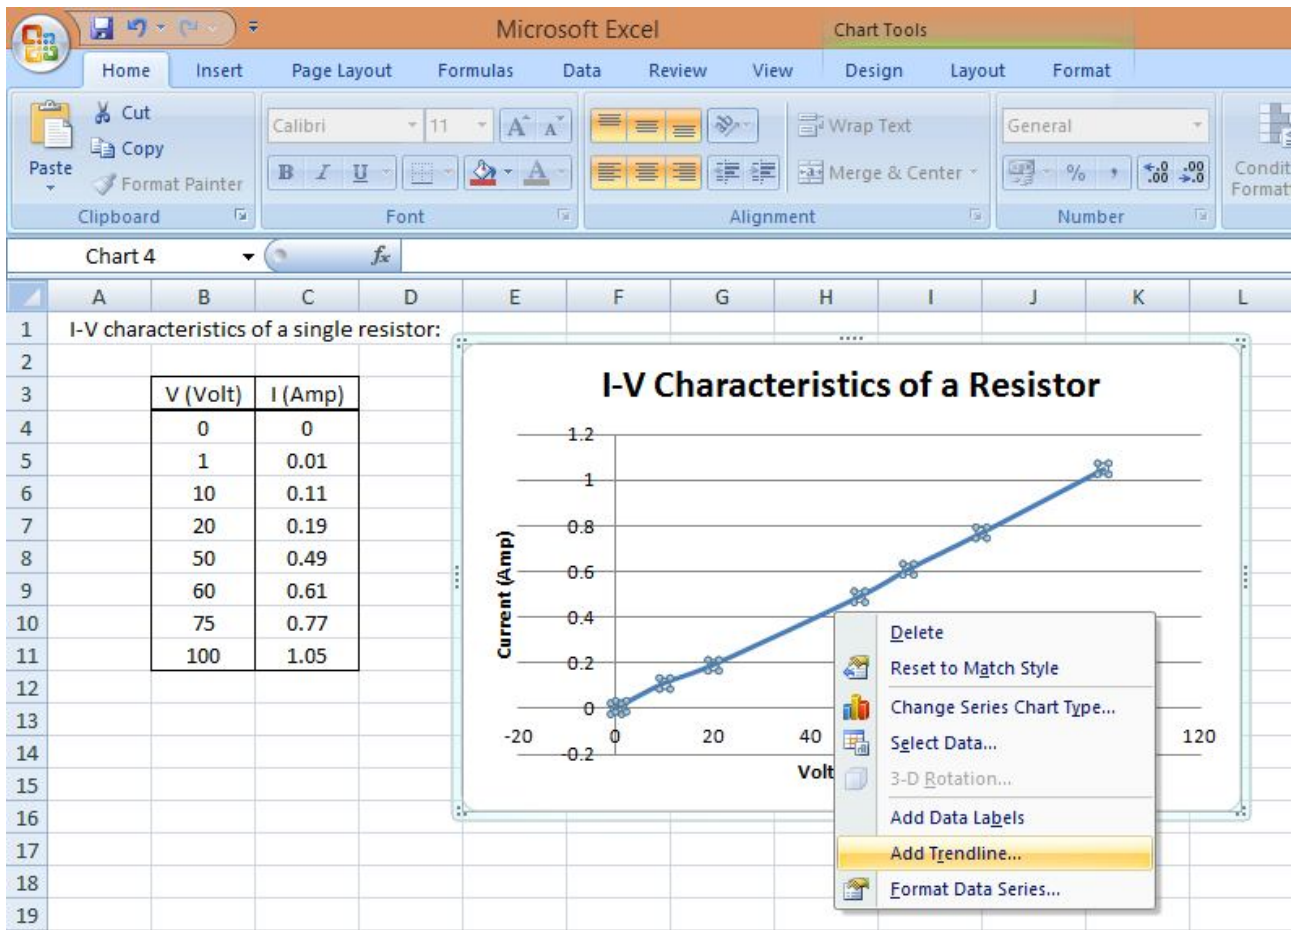

Figure 7
7. Now, as a part of the post-lab work, it is expected that you determine the value of this resistor; which is nothing but the inverse of the slope of this graph. But as you can see that due to measurement, machine or human errors; the graph is not exactly linear as expected, but it deviates slightly for the exact values. Hence finding the values of slope at every point is difficult and unnecessary. Because you can simply use the 'Add Trendline' option and make your work easier. For that you should right-click on the graph (exactly on the blue line) and select the Trendline option. This will put a most-fitting straight line through the end points of the graph. Refer Figure 7.